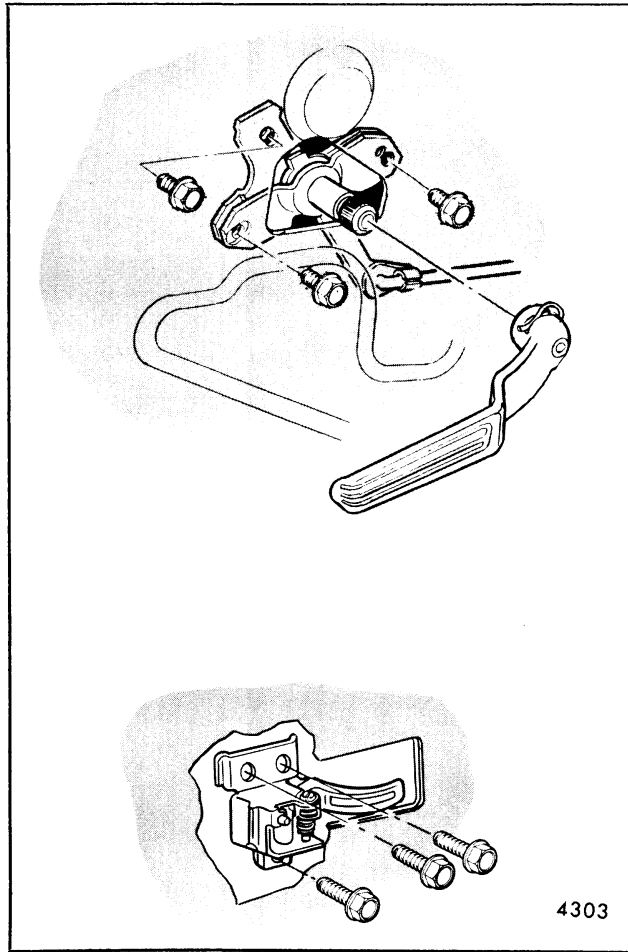

Fig. 5-8-Typical Door Lock Remote Control Handle Installations
Door inside handles are retained by either screws or spring clips (Figs. 5-8, 5-9 and 5-10). On styles
1. On styles with clip retained handles, clip is either exposed when arm rest is removed, or else is hidden by handle (Figs. 5-8 and 5-10). Exposed clips can be disengaged from remote control spindle with a screwdriver.